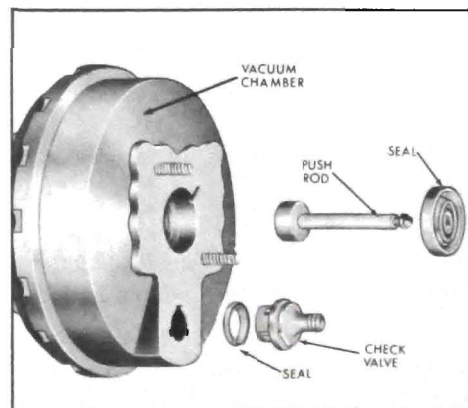

Figure 9-42—Removal of Seal, Push Rod and Check Valve
6. From the front housing remove the seal, and if defective, the vacuum check valve. Also, place master cylinder push rod with front housing group. See Figure 9-42.